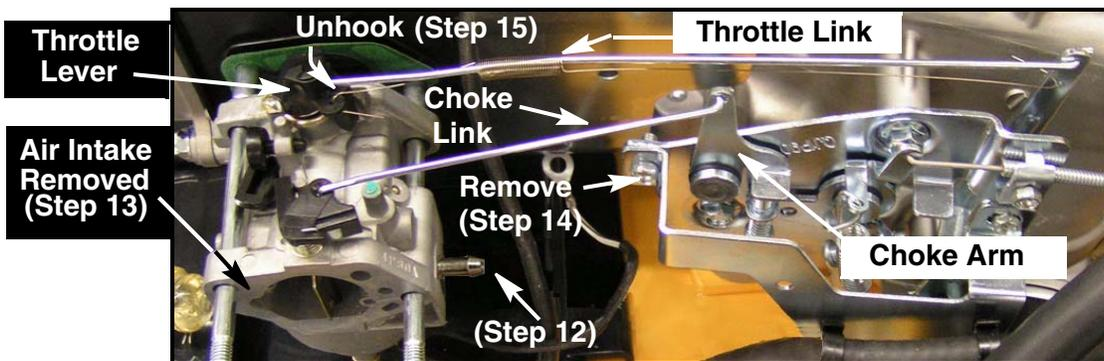

FIGURE 7
14. Using a No. 2 phillips screwdriver or 8mm socket and ratchet, remove the forward most screw securing the throttle control bracket guard. This will allow the carburetor to be slid off of the mounting studs sufficiently to permit the choke link to be unhooked from the choke arm. See Figure 7.
15. Unhook the throttle link tension spring from the throttle lever. See Figure 7.